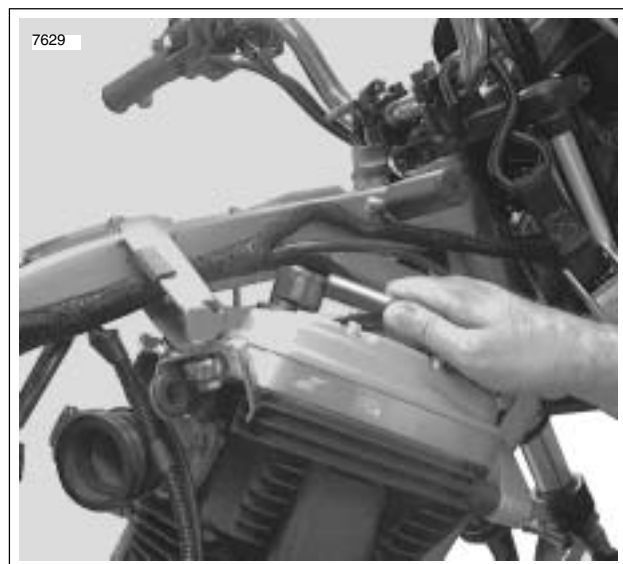

Figure 3-42. Install Crankcase Breather Hose
34. See Figure 3-42. Install crankcase breather hose and crankcase breather into rocker box grommet.